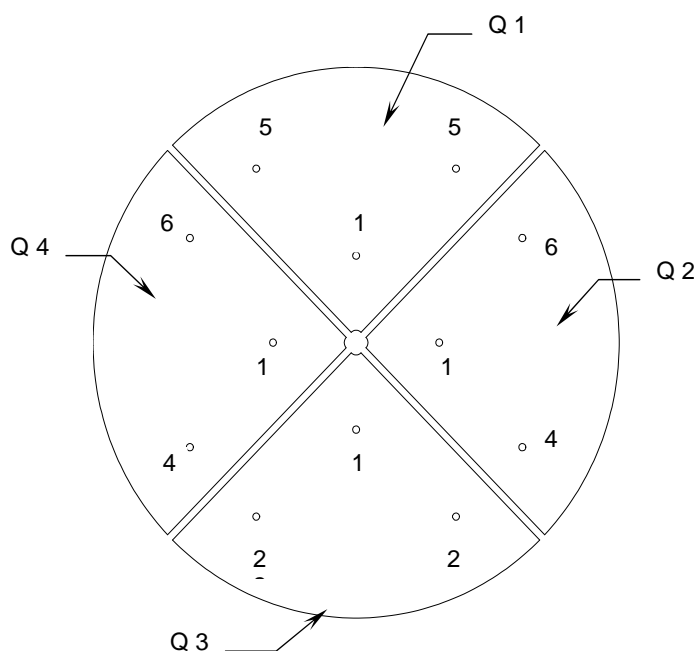

Figure 7: Threaded Insert Location Layout (Front View)
2. Secure inserts with 7/8" hardware (items 19, 20, 21). Snug but do not tighten the hardware.
***Note that there are five different insert lengths, and the assembly requires four of number 1 and two each of numbers 2, 4, 5, & 6. Each insert must be in the correct position in each quadrant for correct assembly. The top of each insert is stamped with an insert number. The numbers shown in Figure 7, Threaded Insert Location Layout, correspond with the stamped numbers on the inserts.***